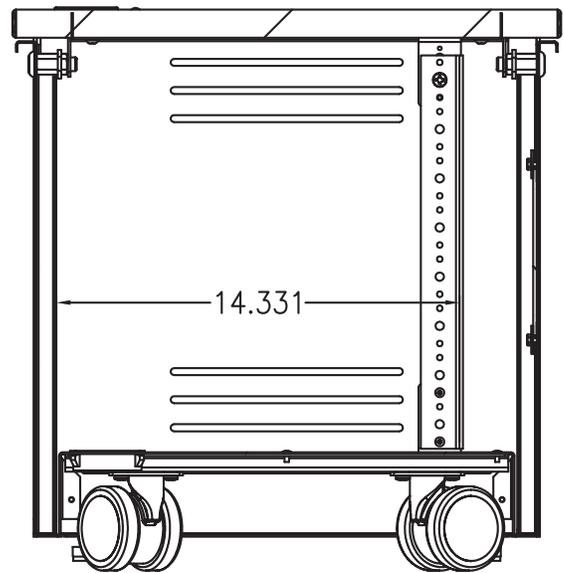

Figure 3
2. The equipment rack provides 8RU. Rack-mount accessories with a depth greater than 14.331"D will not fit in the rack. Check the dimensions of all equipment before installation. **Figure 3.**